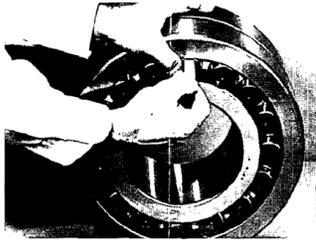

Figure 1 - Internal Clearance
2. Measure the internal clearance of the bearing before mounting. Place the bearing in an upright position as shown in Figure 1. Seat the inner ring and roller elements by pressing down firmly on the inner ring bore while rotating the inner ring a few times. Position the roller assemblies so that a roller is at the top most position on either side. For bore sizes above 135 mm only, press these top rollers inward ensuring contact with the center guide ring. Using a feeler gauge measure the clearance for each side by inserting as far as possible and sliding over top of roller (Figure 1). Write down the measured clearance for use in Step 3e.
1. Measure the internal clearance of the bearing before mounting. Place the bearing in an upright position as shown in Figure 1. Seat the inner ring and roller elements by pressing down firmly on the inner ring bore while rotating the inner ring a few times. Position the roller assemblies so that a roller is at the top most position on either side. Using a feeler gauge measure the clearance for each side by inserting as far as possible and sliding over top of roller (Figure 1). Write down the measured clearance and compare with specifications Table 3. Note: Do not rotate bearing when moving feeler between roller and outer ring.